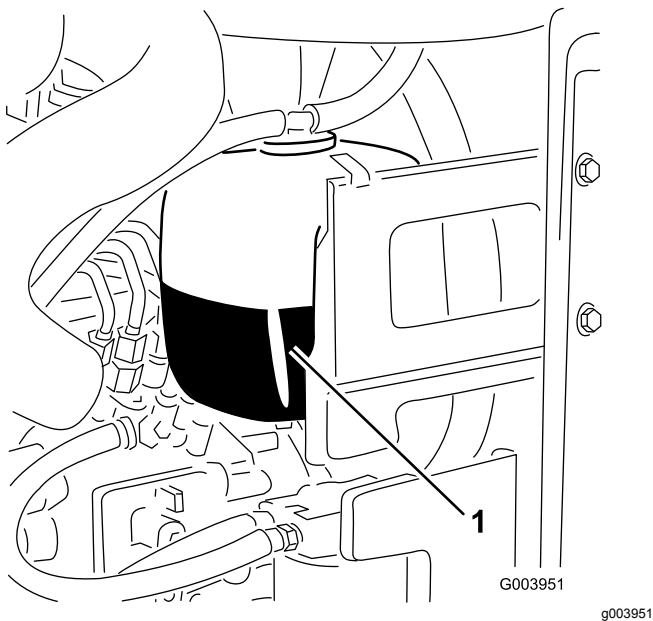

Figure 47
1. Check the level of coolant in the expansion tank (Figure 47).